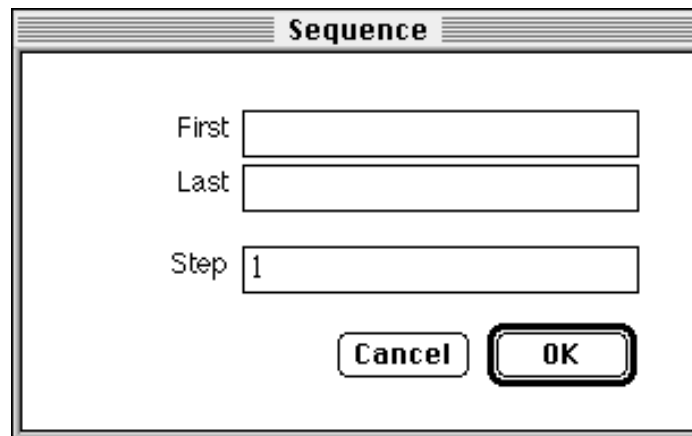

Figure 8-13 Sequence Dialog Box
3. The **Sequence** dialog box appears; use this box to describe the desired sequence. See Figure 8-13.